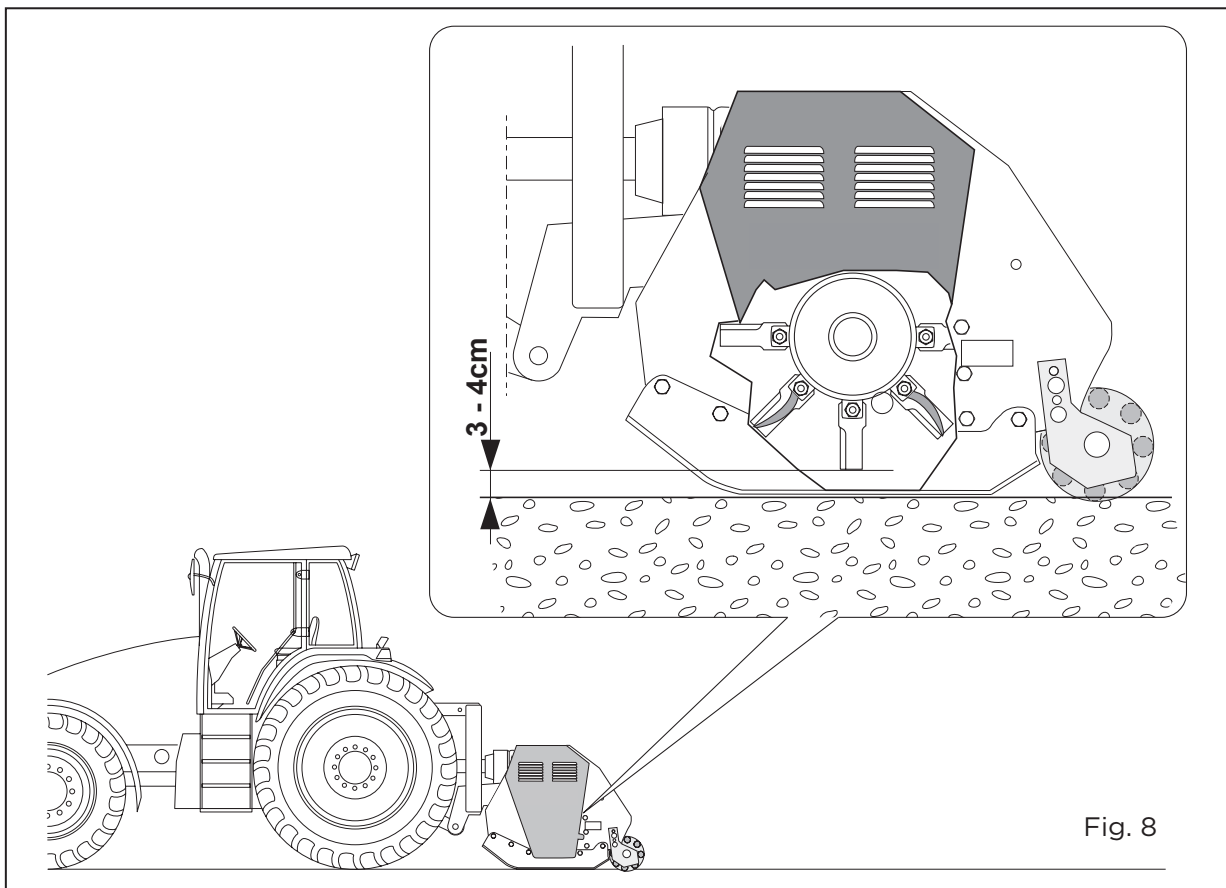

Fig. 8
- Adjust the working height so that the cutters are at about 3 - 4cm (Fig.8) from the ground. (Fig.8)